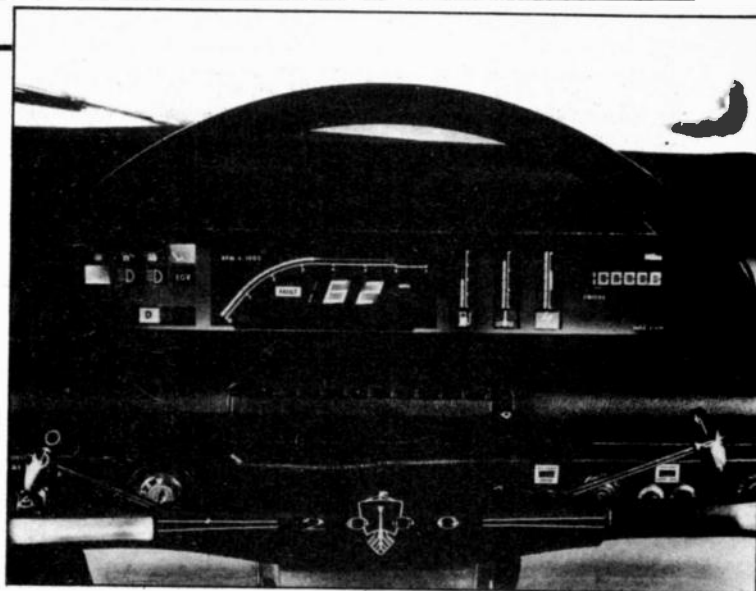

Figure 4. Smiths Industries' DC electroluminescence display system installed in a prototype vehicle
The concept of integration is now being applied to the car dashboard layout where, by the use of optoelectronics, the entire instrumentation can be built into one panel. Of the various types of displays available and under development, the two which are most suitable are direct current electroluminescence (DCEL) and vacuum fluorescence (VF), both of which have the advantage that they emit light. The colour of the light produced is a function of the phosphor used, and hence the displays require no other means of illumination, unlike liquid crystal displays (LCDs) which require back lighting. A number of countries, including the UK, have been experimenting with both types of displays for some years — Smiths Industries Ltd, for example, demonstrated a practical installation based on DCEL as far back as 1978 (Fig. 4) — but at present neither has emerg-